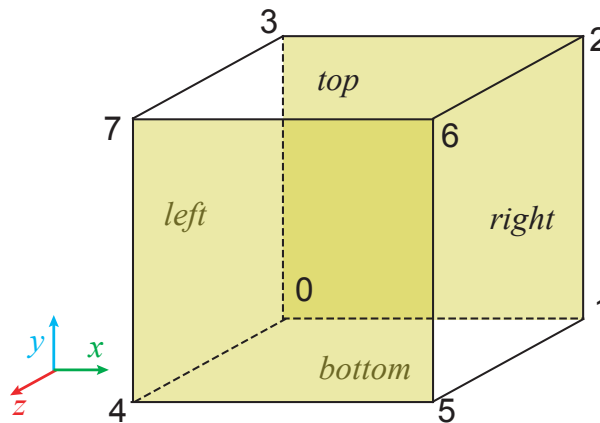

Fig. 4.1: The coordinate system and vertices numbering of single block for `blockMesh`.
`blockMesh` decomposes the domain geometry into a set of 1 or more three dimensional, hexahedral blocks. Each block of the geometry is defined by 8 vertices, one at each corner of a hexahedron. A simple example block and vertices numbering is shown in Fig. 4.1. The vertices are written in a list so that each vertex can be accessed using its label, remembering that OpenFOAM always uses the C++ convention that the first element of the list has label '0'.
- **vertices** contains all three-dimension coordinate of each vertex (line 15-25), e.g. vertex 0 is (`$ymin 0`) and the vertex 5 is (`$Lx $ymin $Lz`), the coordinate system is shown in Fig. 4.1.
- **boundary** contains sub-dictionaries for defining boundary patches. The name (e.g. `right` or whatever the user like) of the sub-dictionary is the boundary patch name which will be used in filed data (see Section 3.2). There are two key entries, `type` and `faces` in each sub-dictionary. The `type` is typically set to `patch` or `empty` for a non-computing boundary patch of a non-three-dimensional case. `faces` is a list of block faces that make up the patch with a user defined name (see lines 43-46 for `right` patch or lines 67-71 for `frontAndBack` patch shown as transparent surface in Fig. 4.1)